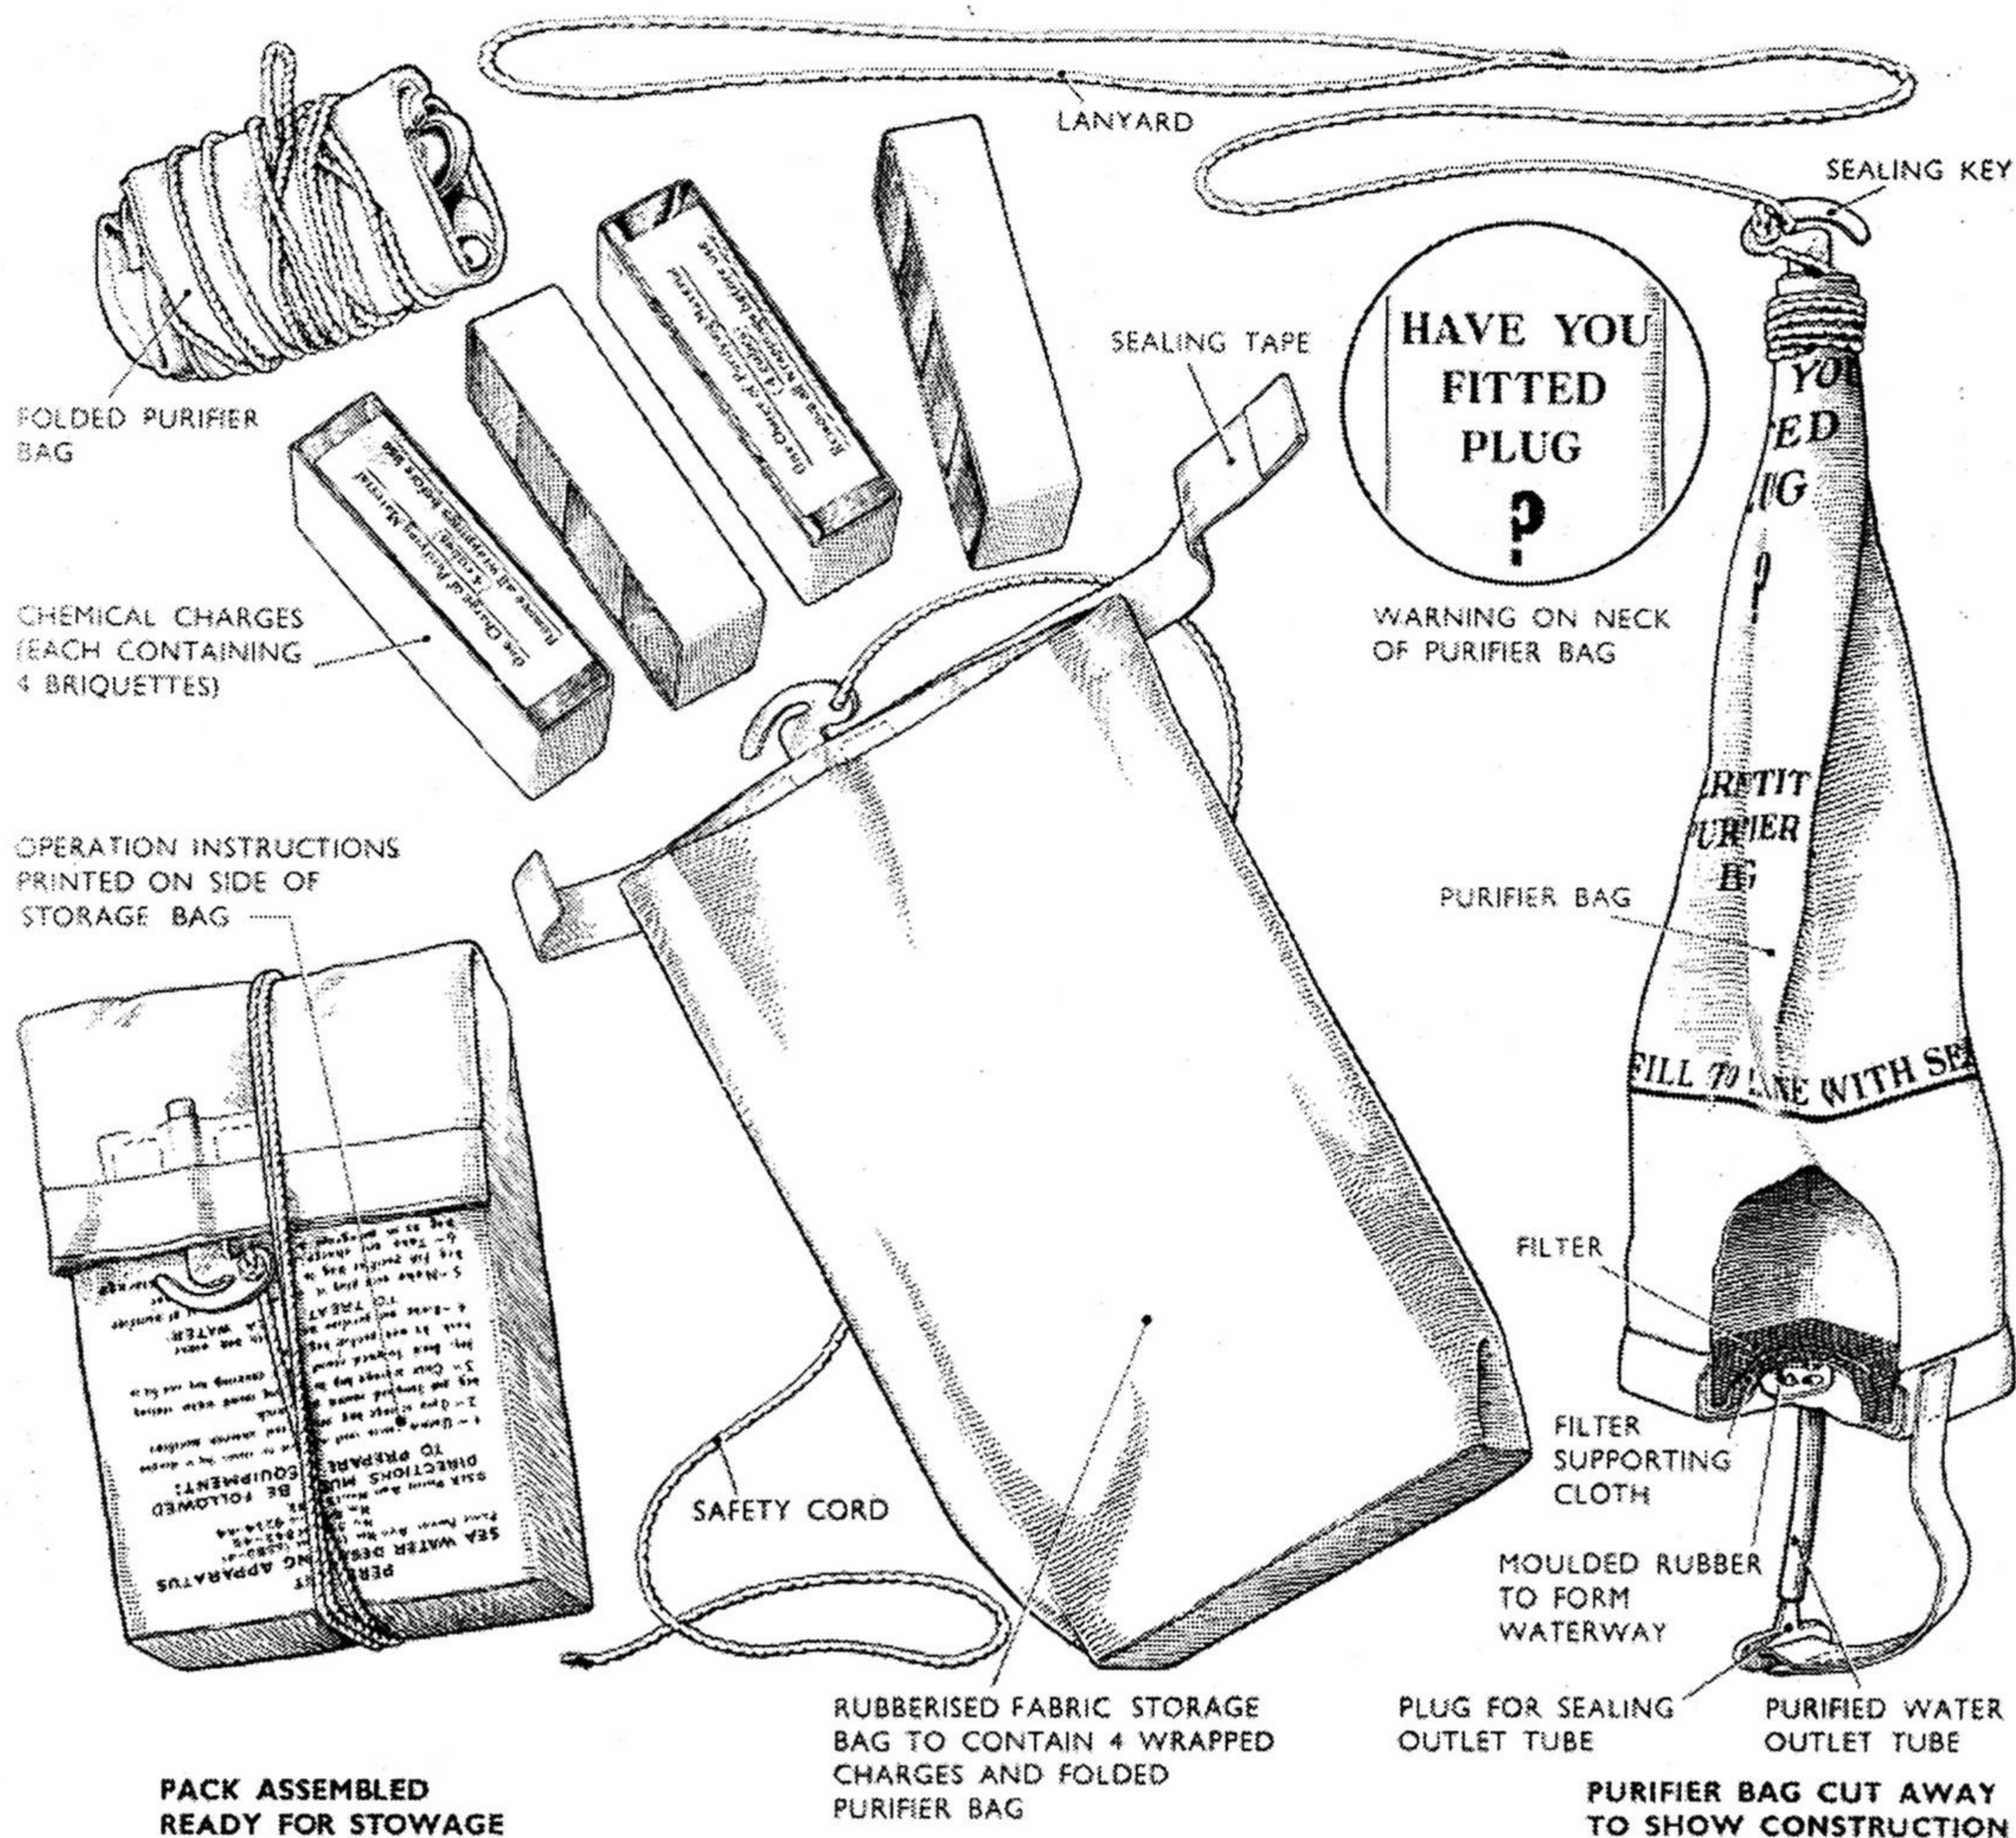

Fig. 3. Components of 2 pint de-salting apparatus
14. The two-pint desalting apparatus (*fig. 3*) is provided for carriage in packs where stowage space is restricted, e.g., in K dinghy packs. It consists of the following components:—